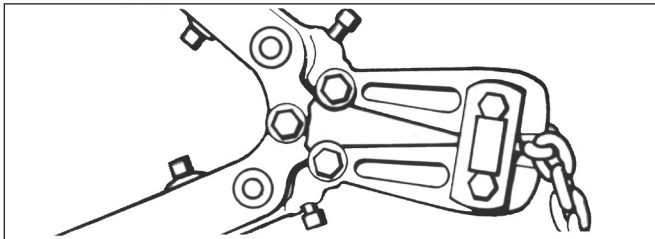

Figure 22. Cutting Chain with a Bolt Cutter
3. Use a bolt cutter (Figure 22) similar to the H.K. Porter No. 0590MTC with special cutter jaws for cutting hardened chain (25.4mm-1 inch) long cutting edge.